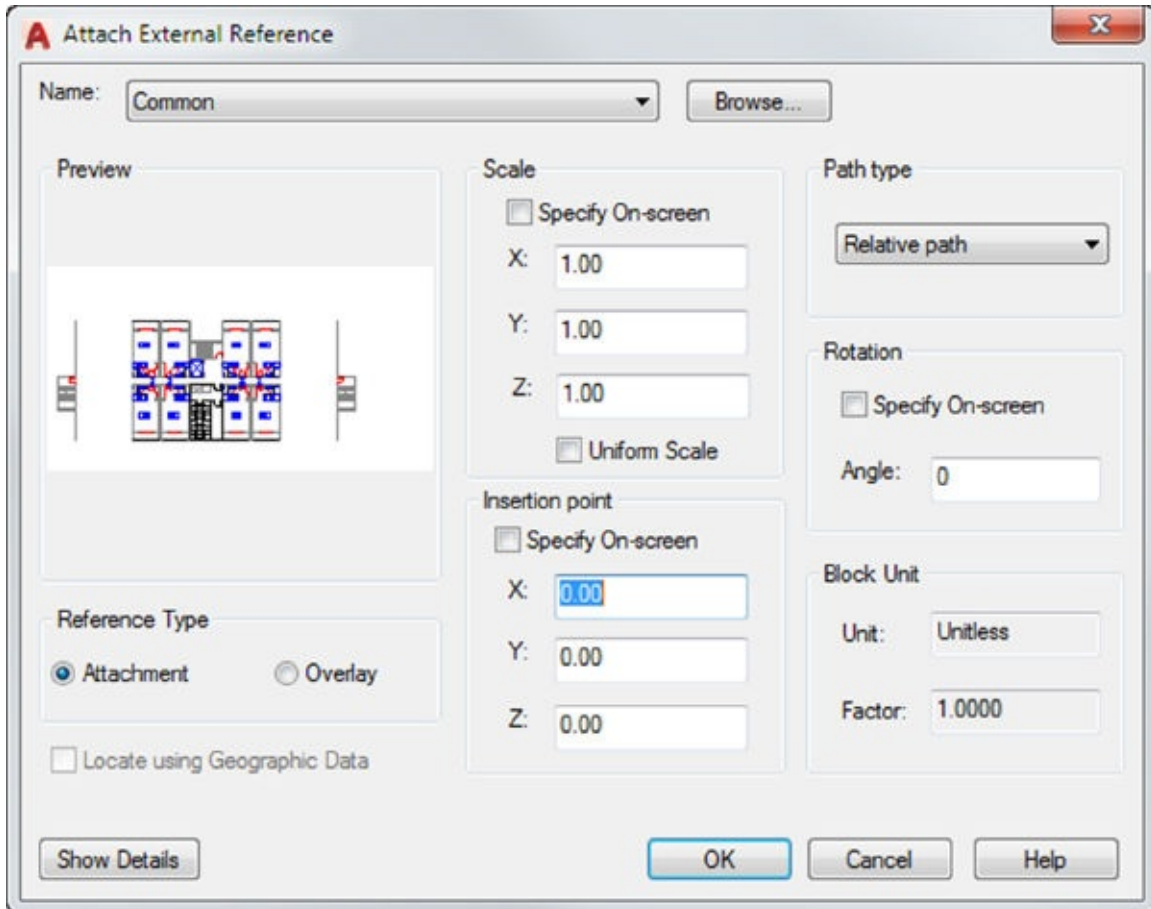

FIGURE 14.5 The Attach External Reference dialog box
6. In the Attach External Reference dialog box, make sure that the Specify On-Screen check box in the Insertion Point group isn't selected. Then make sure that the X, Y, and Z values in the Insertion Point group are all 0 (see Figure 14.5). Because the insertion points of all the files are the same (0,0), they will fit together perfectly when they're inserted into the new files.